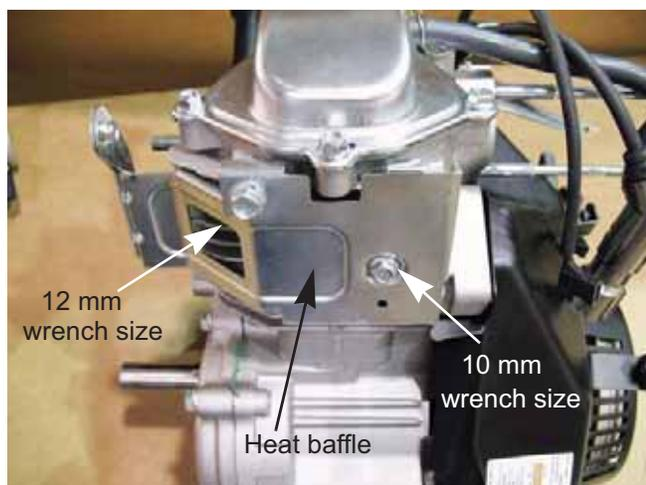

Figure 9.2
7. Remove the heat baffle. See Figure 9.2.